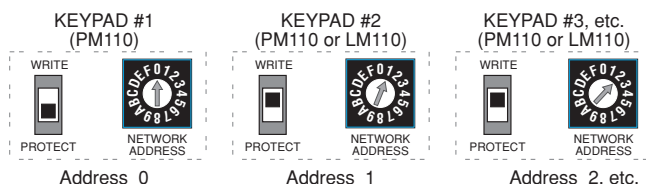

Fig. 30
- If you have not already done so, set each SmartPad₃ to a **unique NETWORK ADDRESS** (**Fig. 30**) such as 0, 1, 2, 3, etc.
- On each of the other keypads, set the **WRITE/PROTECT** switch to **WRITE** (**Fig. 30**) and press the **RESTORE** button.